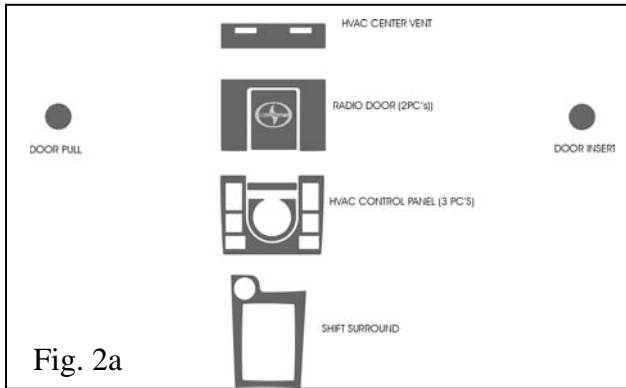

Fig. 2a
- (a) Inspect parts prior to installation to avoid unnecessary removal (Fig. 2a).
- (a) Thoroughly clean (using method in Step 1.3.) all applicable surfaces highlighted in Fig. 2a.